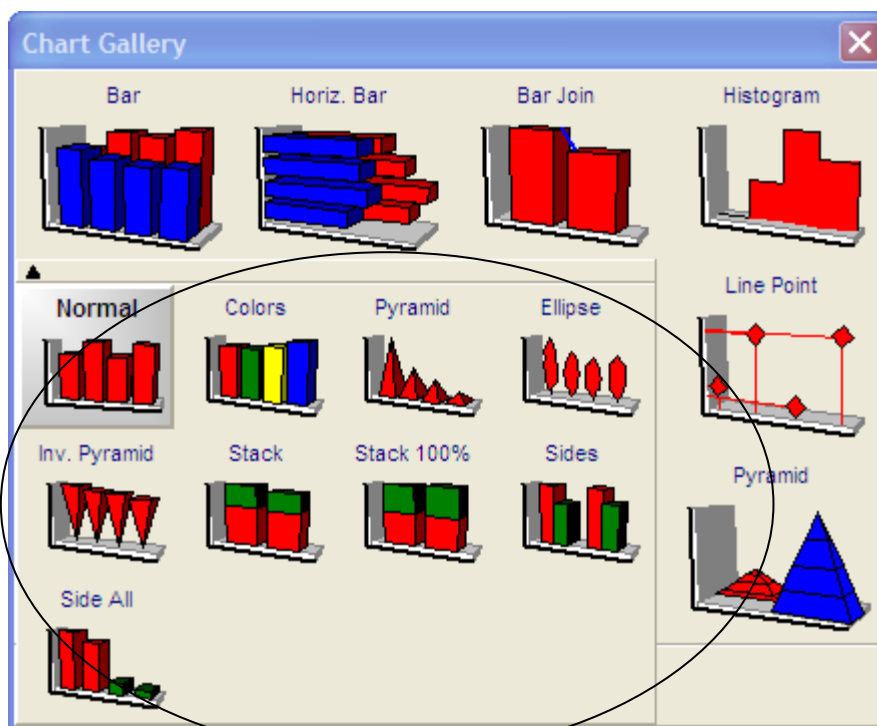

Figure 7.21 Chart gallery of available formats for the multi-well chart
⇒ The Chart Gallery appears (Figure 7.21).
3. To view a sub-menu of styles for the selected format, click the down arrow (Figure 7.21).